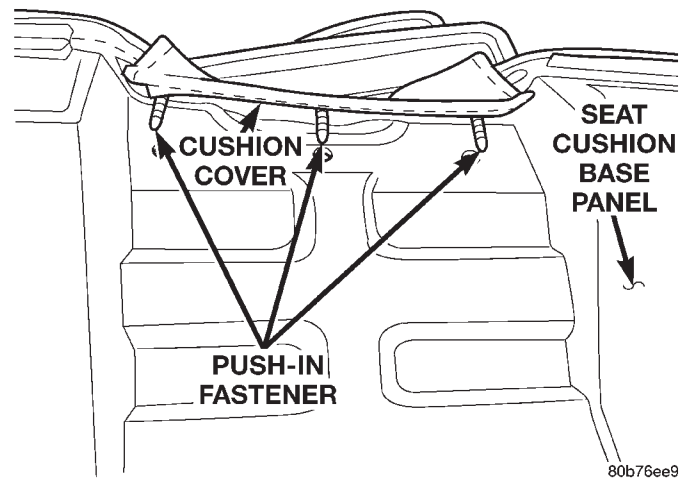

Fig. 10 Push-in Fasteners
- (1) Remove rear seat cushion.
- (2) From the underside of the seat, disengage J-straps attaching cover to seat cushion base panel.
- (3) Remove push-in fasteners attaching cushion cover to seat cushion base panel (Fig. 10).
- (4) Roll back cover.
- (5) Disengage hog rings attaching cushion cover to seat cushion foam pad.
- (6) Separate cushion cover from seat cushion base panel.